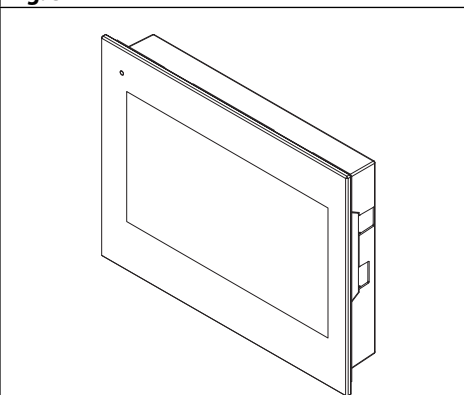

Fig. 8
4. The video intercom is installed (**Fig. 8**), power up the system and check that it works correctly.